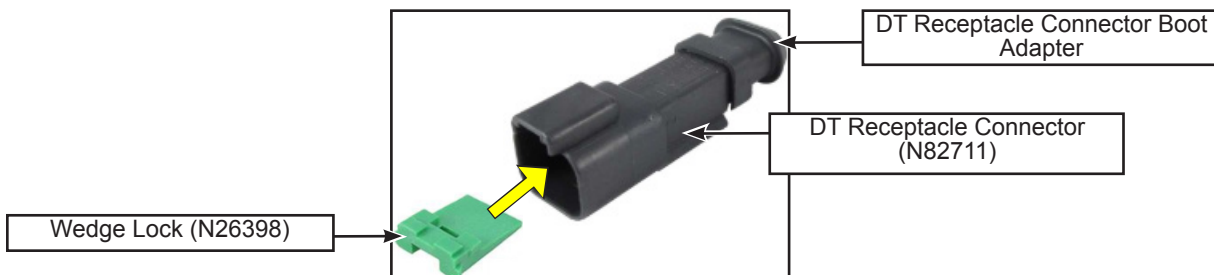

Figure 17 - Wedge Lock Insertion into Deutsch DT Receptacle Connector
- 1.33. Insert the WHITE wire terminal into position 1 and the RED wire terminal into position 2 of the DT receptacle connector PN N82711. Insert the wedge lock PN N26398 into the DT receptacle connector (see figure 17).